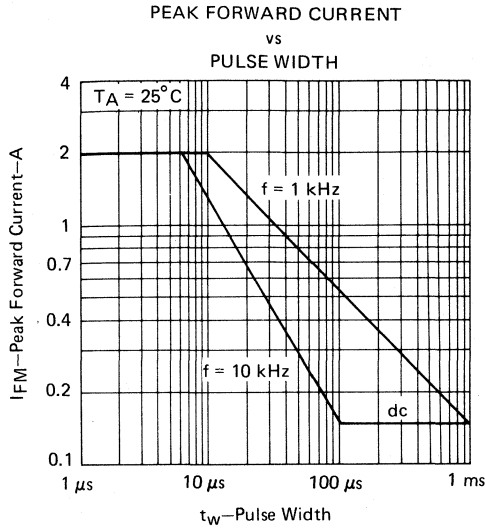

FIGURE 1
2. This value applies for  $t_W \leq 10$  μs, f ≤ 1 kHz. See Figure 1.